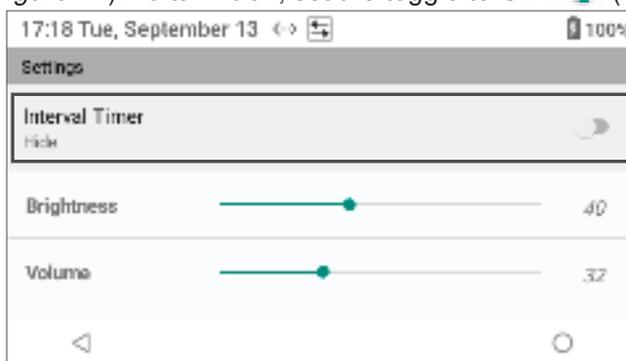

Figure 17: Interval Timer – Hide
- If **Hide** (Hide) and  (Toggle Off) are displayed, the Interval Timer will not be displayed during patient tests (*Figure 17*). To turn it on, set the toggle to **On**  (Toggle On).
- 2 Drag the **Brightness** slider horizontally to the desired level (*Figure 17* (page 27))